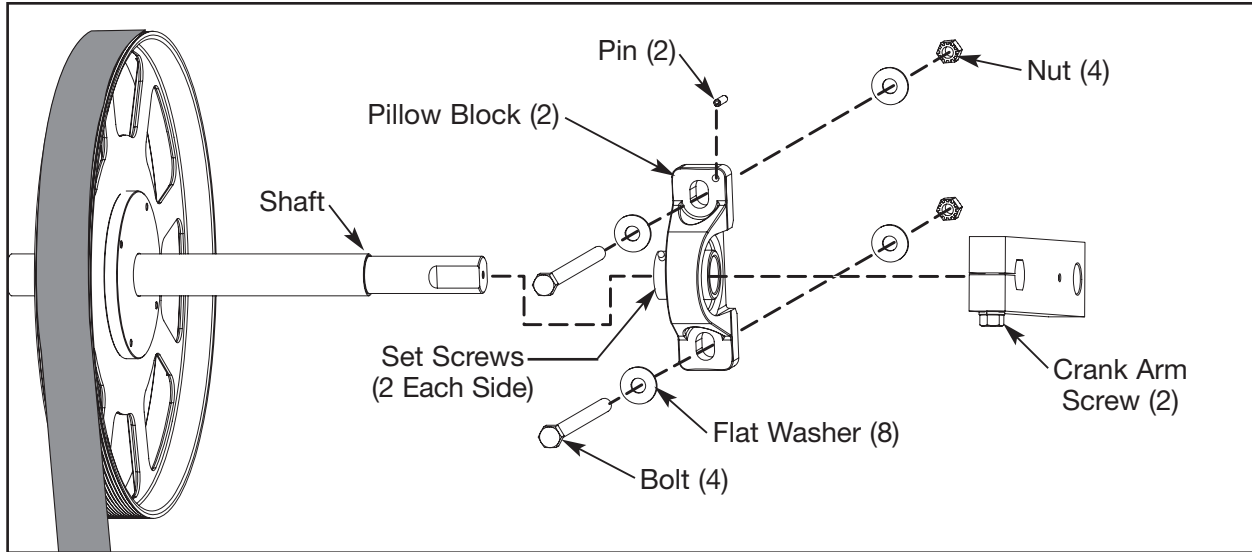

Figure 21
- A. Using a 7/16" socket wrench, loosen but do not remove the one screw on each crank arm. See Figure 21.
- A. Using a 1/8" hex key, loosen but do not remove the two set screws on the each pillow block. See Figure 21.
- B. Pull each pillow block off the shaft. See Figure 21.
- A. Slide a pillow block on each end of the shaft. See Figure 21. **NOTE:** Orientation of pillow block sleeve and set screws must go toward the inside. Do not tighten the set screws until step 13F.